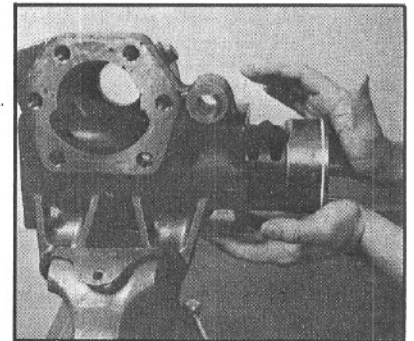

Figure 62
30. Remove the rack piston (31) and worm shaft/ input shaft (17) from the gear housing (20) as an assembly (FIG. 62).